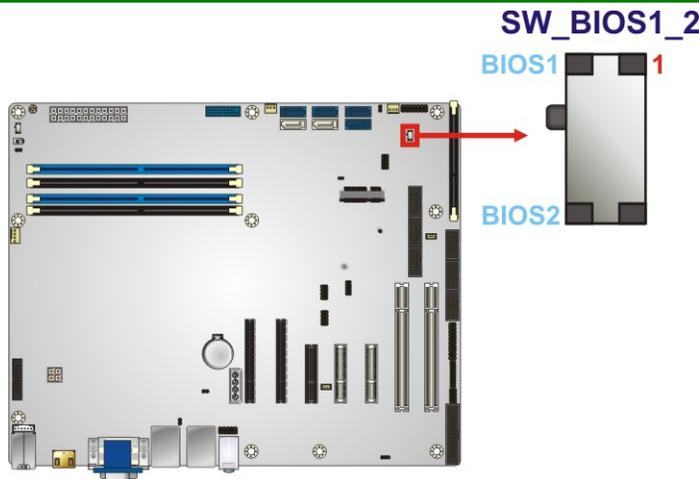

Figure 4-18: BIOS1/BIOS2 Switch Location
The IMBA-Q170-i2 equips with dual BIOS to support flexible I/O configuration. To switch BIOS1 to BIOS2 or BIOS2 to BIOS1 successfully, please follow the steps below and refer to **Figure 4-18** and **Table 4-2** for the BIOS switch location and settings.
- Step 2:** Switch BIOS1 to BIOS2 or BIOS2 to BIOS1 by moving the BIOS switch to BIOS1 or BIOS2 position as shown in **Figure 4-18**.